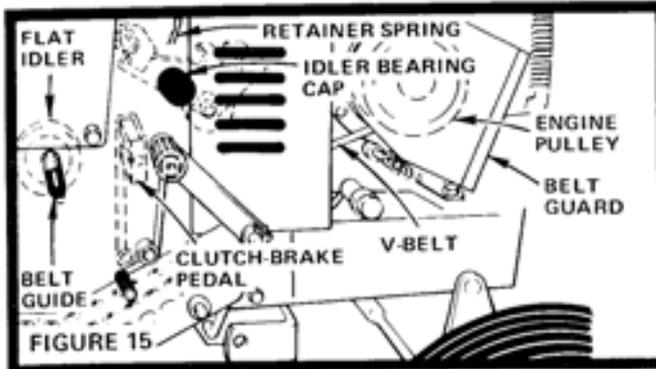

FIGURE 15
A new V-Belt may stretch after the first few hours of operation. If Clutch-Brake Pedal, in drive position (Fig. 15), is considerably to the front or rear of the vertical position, the V-Belt is out of adjustment and must be re-tensioned.
a. Idler Bearing (Fig. 15)
- Remove Spark Plugs and Belt Guard and turn Engine Pulley (Fig. 15) clockwise by hand until 21°BTC mark on gear cover aligns with mark on flywheel. Turn another 1/4 turn to ensure points are fully open.